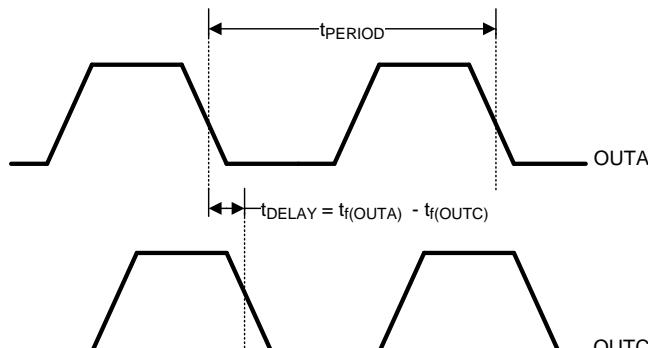

Figure 1. Same Applies to OUTB and OUTD
(2) Ensured by design. Not production tested.
(3) Output delay is measured between OUTA and OUTB, or OUTC and OUTD. Output delay is defined as shown below where: $t_f(\text{OUTA})$ = falling edge of OUTA signal, $t_r(\text{OUTB})$ = rising edge of OUTB signal (see Figure 1 and Figure 2).
(6) Output delay is measured between OUTA and OUTB, or OUTC and OUTD. Output delay is defined as shown below where: $t_f(OUTA)$ = falling edge of OUTA signal, $t_r(OUTB)$ = rising edge of OUTB signal (see Figure 1 and Figure 2).